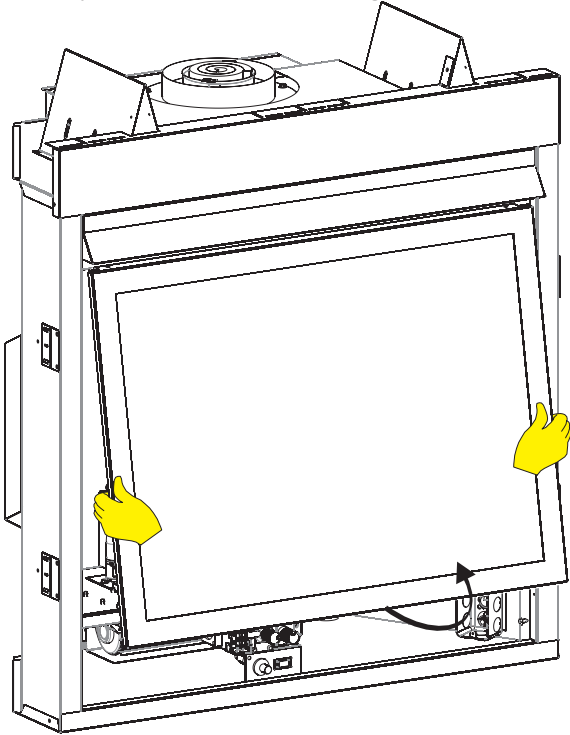

Figure 89
5. Move your hands to the sides of the glass frame and lift it up and away from the fireplace. **See Figure 89.**